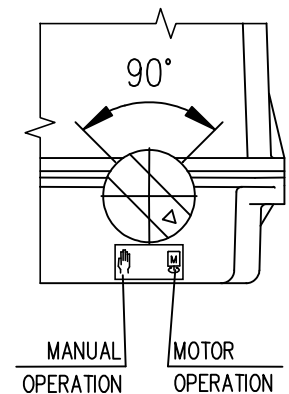

Fig. 10
- Turn the button for gear disengagement to the right by 90° (Fig. 10, the button arrow shows the symbol of hand) what disengages the gear in the actuator.